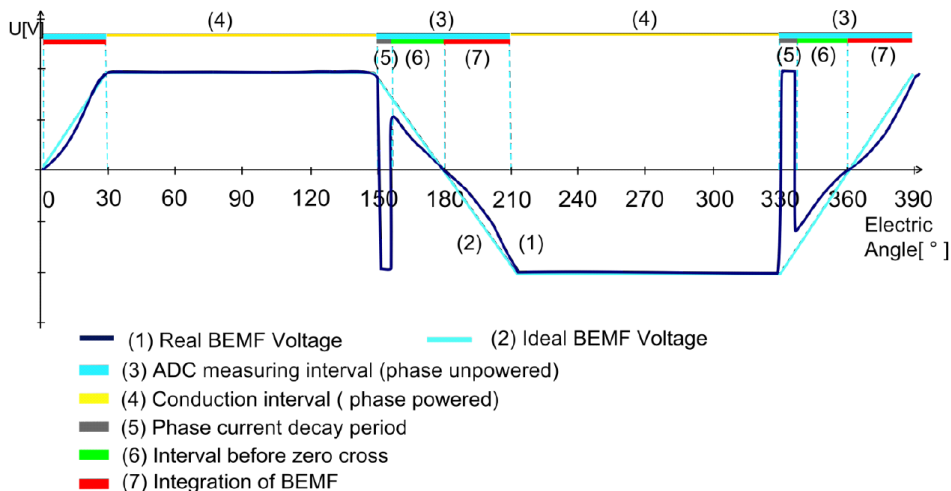
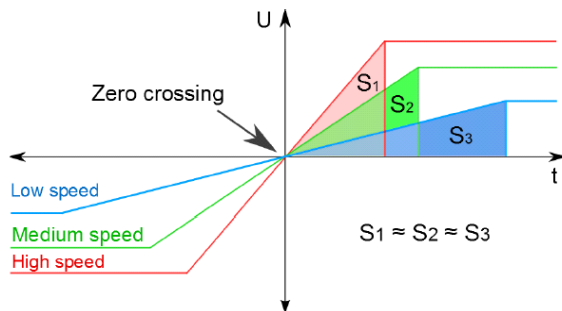

Figure 15. Single-phase Back-EMF Voltage
Figure 16. Back-EMF Integration Threshold
- The Back-EMF integration algorithm provides a useful technique for controlling sensorless BLDC motors. The Back-EMF sensing technique is based on the fact that only two phases of a Brushless DC motor are energized at a time. The third phase is a disconnected phase which can be used to sense the Back-EMF voltage generated by the motor. Figure 15 shows a typical Back-EMF signal in one electrical revolution. The Deadtime Insertion option specifies which component inserts deadtime into the PWM signal.
In Figure 15, interval (3) shows the ADC measuring Back-EMF voltage when the phase is unpowered. Because of the transient pulse after commutation in interval (5), the number of measured samples after commutation can be ignored. When a zero-cross occurs, the subsequent pulses are integrated—as shown in interval (7) — until the value reaches the integration threshold and commutation is performed. Back-EMF integration is fully implemented in the ThreePhaseMotorControl component, but the timer still controls the commutation. To commute using the BEMF integration value, disable the commutation timer and use an alternative speed controller controlling the torque of the motor to reach the desired speed. The integration threshold remains constant for all speeds (see Figure 16).